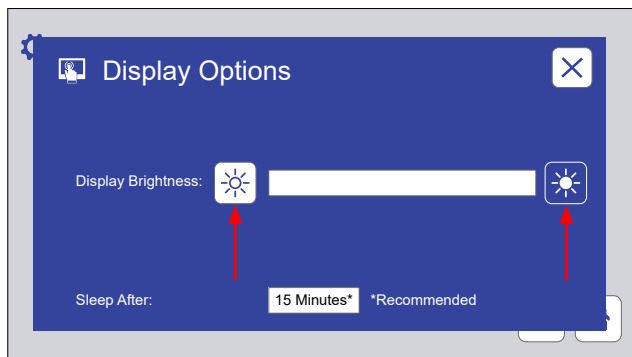

Figure 8.8e: The Display Options screen provides controls to adjust the brightness screen. Touch a brightness icon to adjust up or down.
- o Display Options (Figure 8.8e)